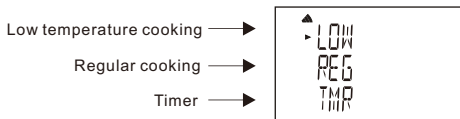

Fig.1 – Main Menu
- Select the cooking mode: In the main menu (Fig.1), press ▲ or ▼ button to select the cooking mode.
- Select Low Temperature Cooking: In the main menu(Fig.1), press  or  button to select Low Temperature Cooking.
- Select Regular Cooking: In the main menu (Fig.1), press ▲ or ▼ button to select Regular Cooking (REG).
- **Enter the timer feature:** In the main menu (Fig.1), press ▲ or ▼ button to select timer (TMR). Then, press ► to confirm and go to the next step.